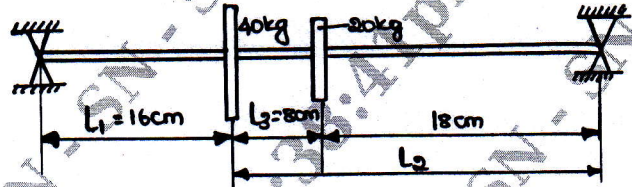

Fig.Q10(b)
b. Find the lowest natural frequency of transverse vibration for the system shown in Fig.Q10(b) by Rayleigh's method.